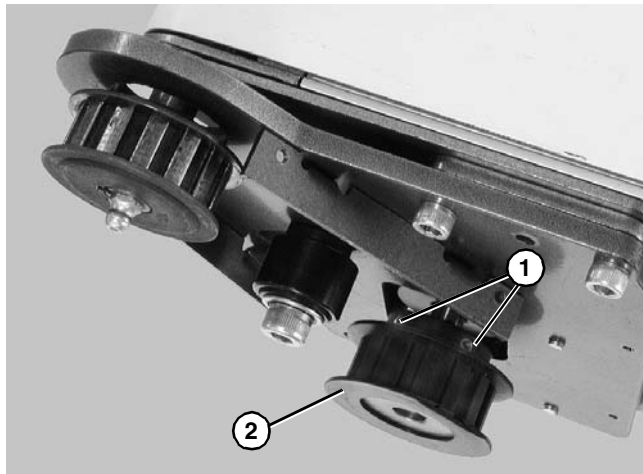

Figure 30
4. Loosen two (2) set screws (**Figure 30, item 1**). Remove drive pulley (**Figure 30, item 2**).
7. Replace drive pulley (**Figure 30, item 2**) and tighten set screws (**Figure 30, item 1**).